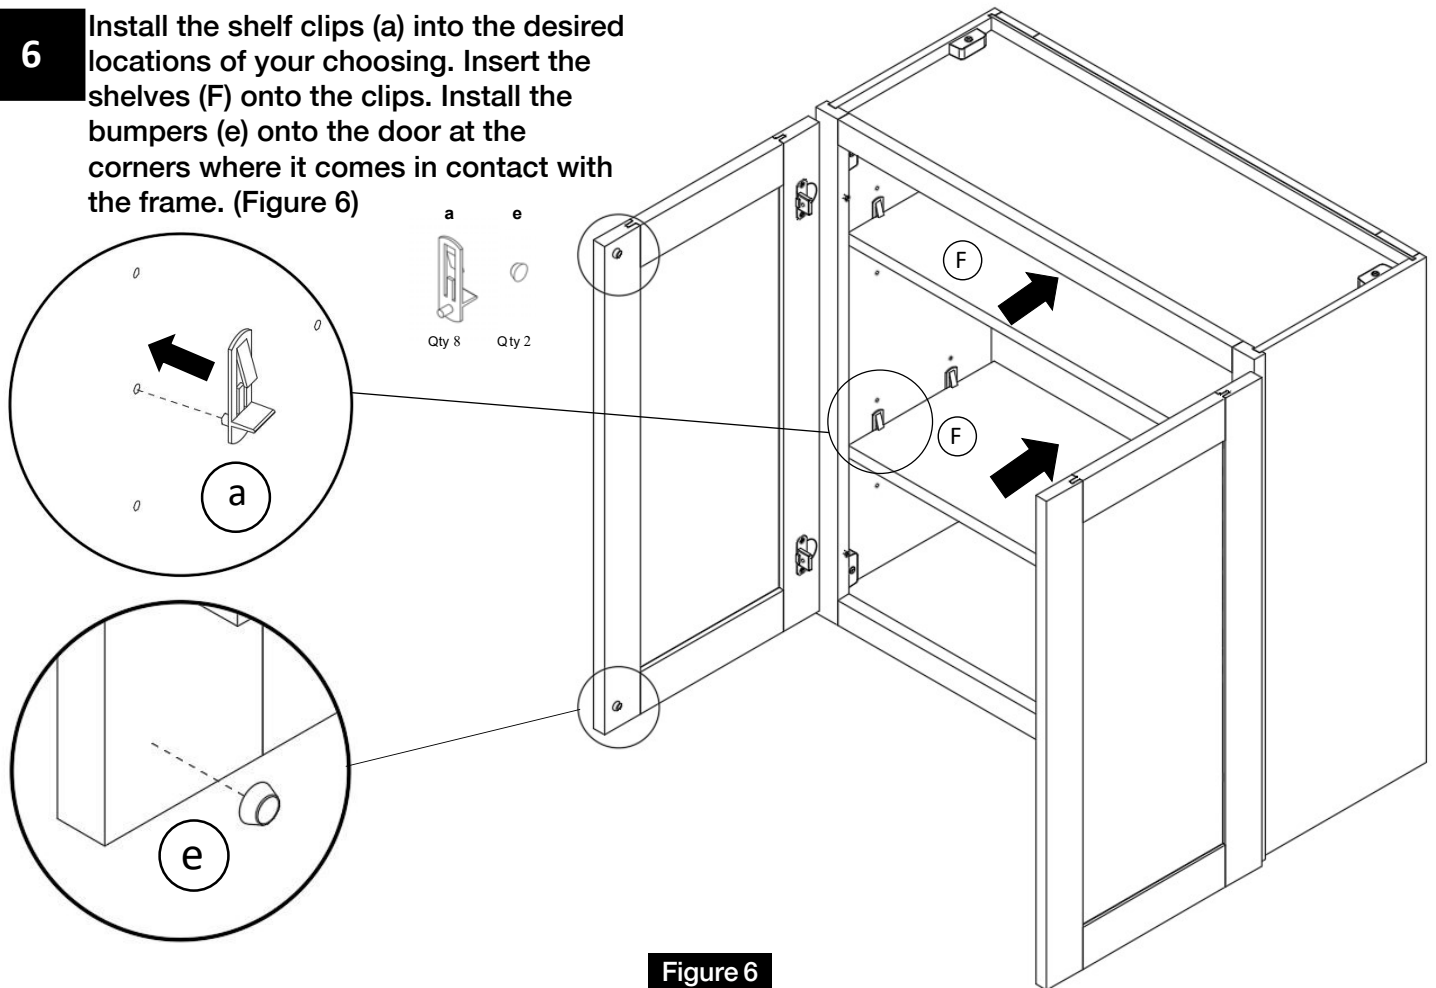

Figure 6
Install the shelf clips (a) into the desired locations of your choosing. Insert the shelves (F) onto the clips. Install the bumpers (e) onto the door at the corners where it comes in contact with the frame. (Figure 6)